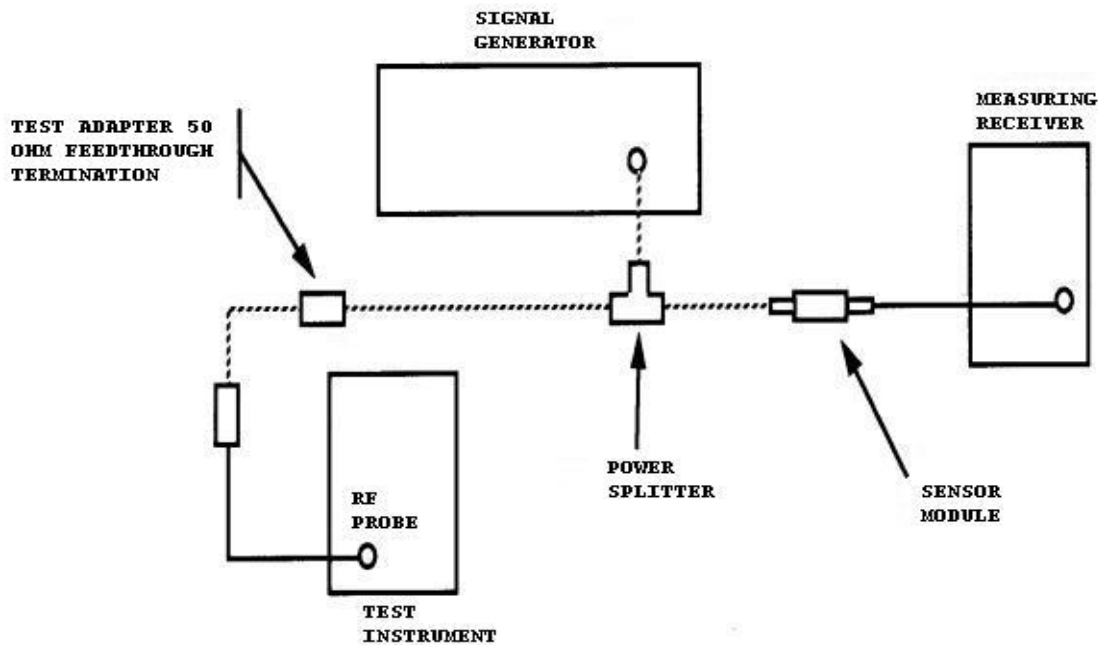

Figure 1. Frequency response - equipment setup.
(6) Connect equipment as shown in figure 1.